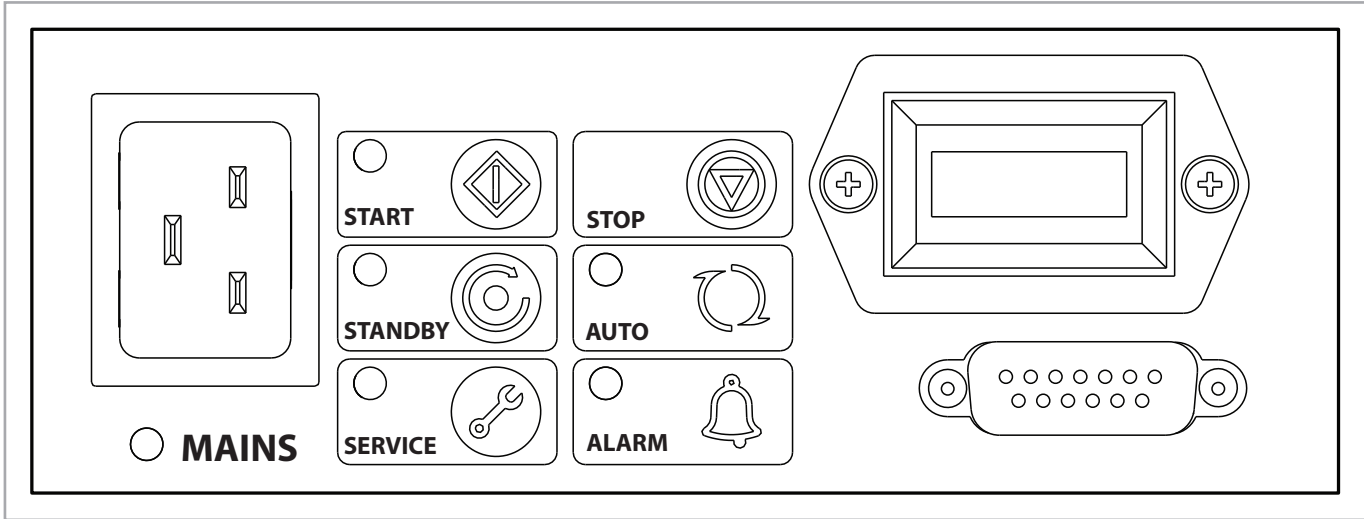

Figure 2 - 1-Phase pump user interface panel
- Manually, using the buttons on the interface panel. Refer to Figures 2 and 13.